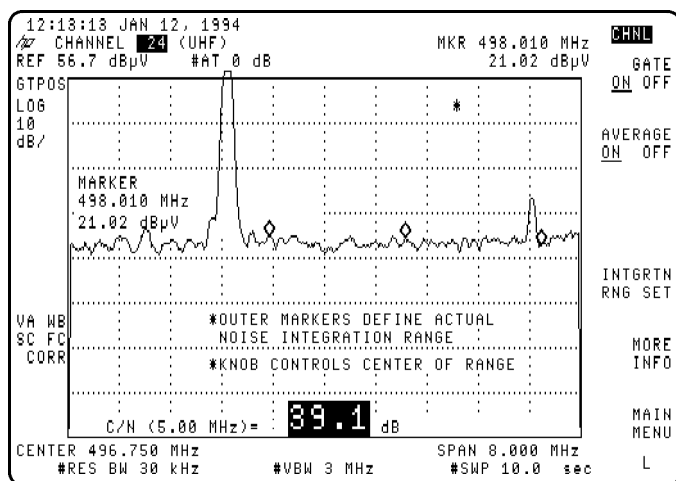

Figure 2-19. Carrier-to-Noise (Gate On)
X.XX MHz is the measurement bandwidth selected from the **MESMNT BW** in the Setup menu and YY.Y dB is the RMS noise measured 1 the X.XX MHz bandwidth. (See Figure 2-19.)